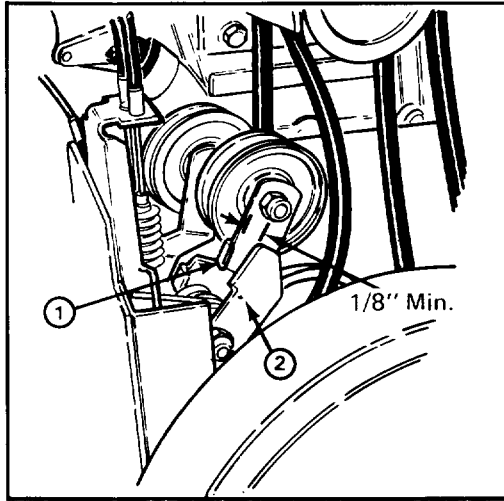

Figure 27
2. Check idler and brake adjustment. There should be a minimum clearance of 1/8" between tab on impeller idler arm and brake arm (Fig. 27). If there is less than 1/8" clearance, belt must be replaced.